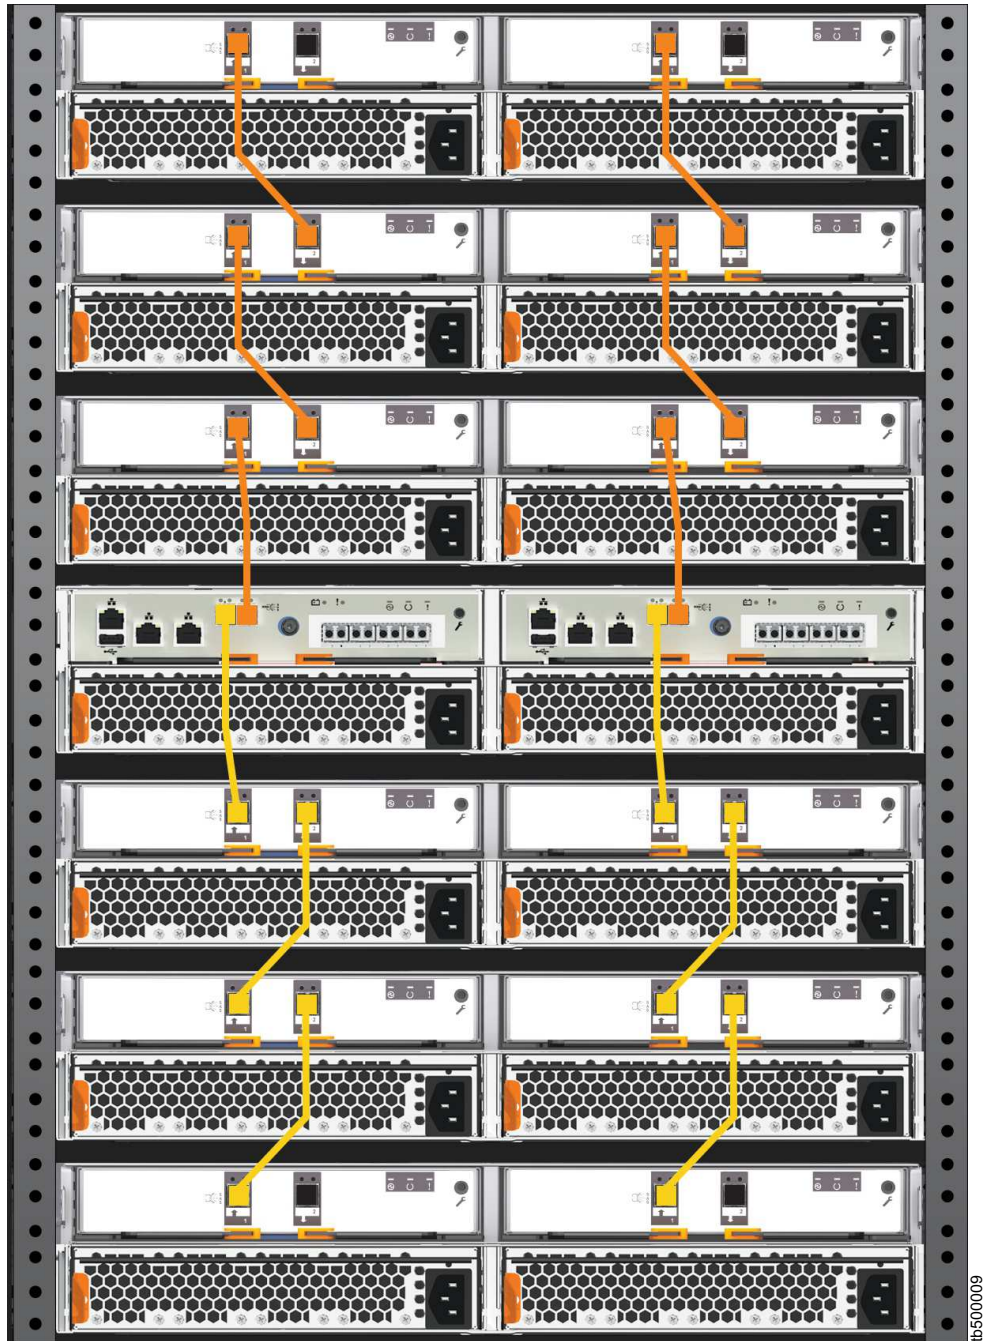

Figure 20. Connecting the SAS cables to a Storwize V5030 system
Figure 20 on page 29 shows how to connect SAS cables on a Storwize V5030 or Storwize V5030F system. In this figure, two expansion chains are connected to the Storwize V5030 system.
2. To add a second expansion chain to the Storwize V5030 control enclosure, use the supplied SAS cables to connect the control enclosure to the expansion enclosure at rack position 2, as shown in Figure 20.
3. If more expansion enclosures are installed, connect each one to the previous expansion enclosure in a chain; use two Mini SAS HD to Mini SAS HD cables, as shown in Figure 20 on page 29.